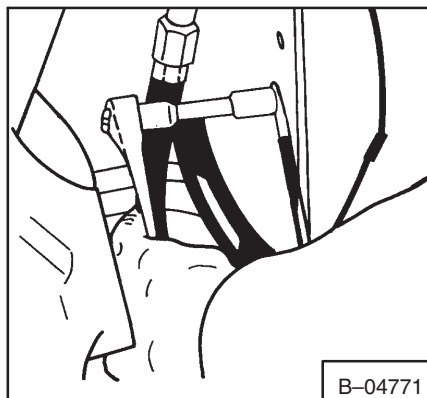

**Fig. 7B-30** Removing The Solenoid
14. Remove the solenoid from the recovery tank bracket (Fig. 7B-30).